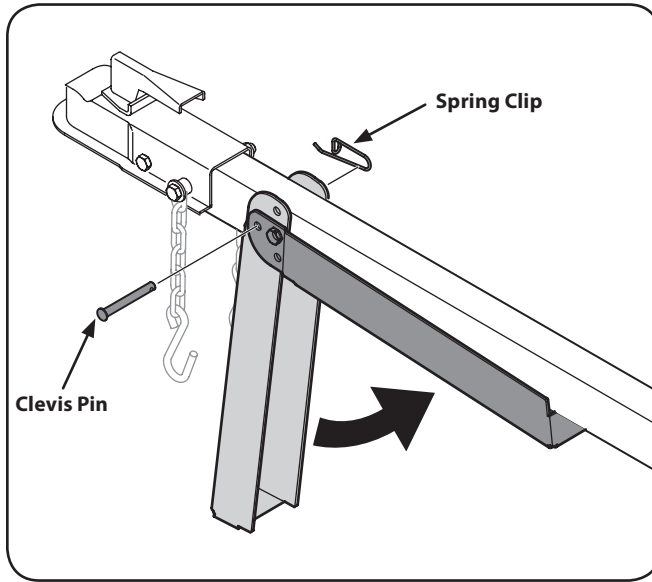

Figure 5-5
- Support the tongue and pivot the jack stand up against the tongue. See Figure 5-5.
- Secure with the spring clip and clevis pin previously removed in Step 2. See Figure 5-5.